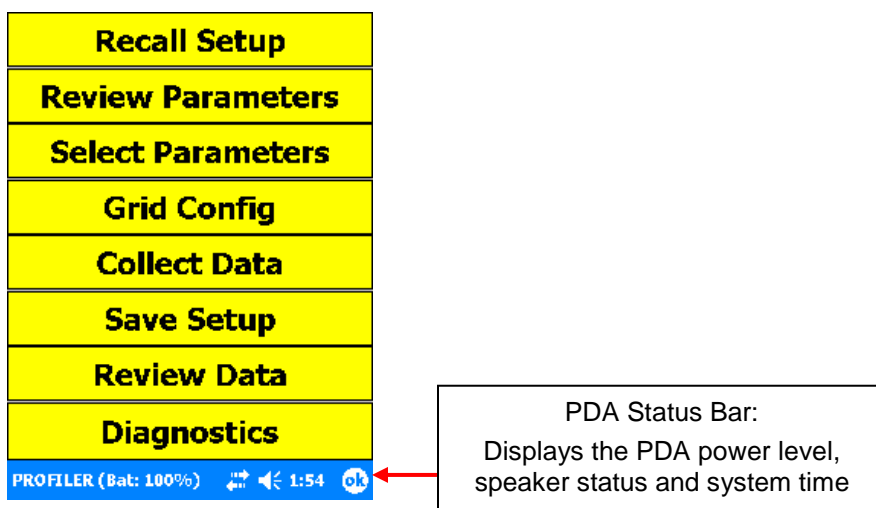

Figure 23: Profiler Main menu
7. The PDA will then display the EMP-400 Main menu (Figure 23). At the bottom of the screen, the PDA battery gas gauge, the speaker status (On/Off) and the current system time are displayed.